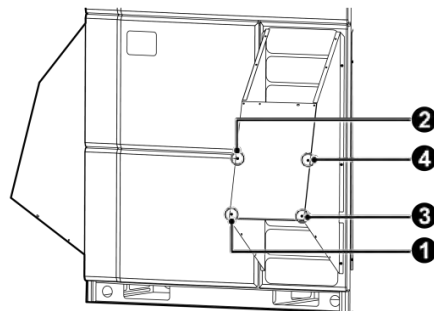

Fig. 3.29
Step 2: installation of Front Plate 2. Please refer to Fig 3.29 for the installation location and sequence of screws.